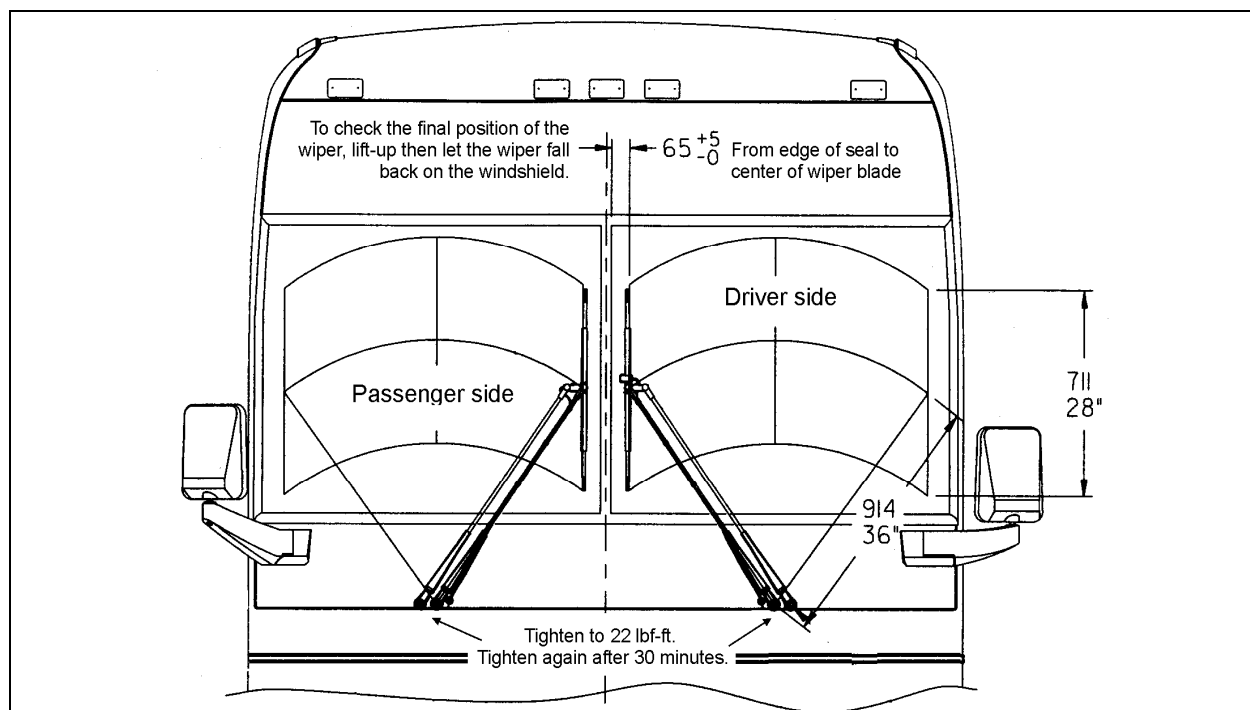

FIGURE 40: WIPER ARMS POSITIONING
1. Reinstall the wiper arms and position as shown in figure 40. Before positioning the wipers at their final position, tighten the nuts at first.